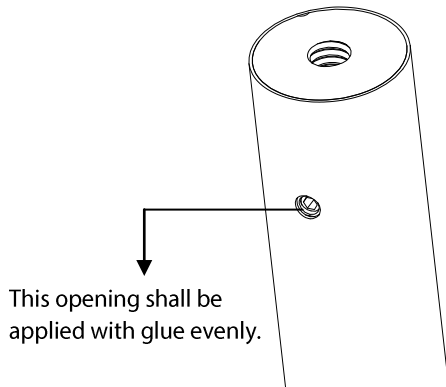

Figure 2-2
1. Open the glue and apply in the square opening of the arms as well as the one countersunk screw, as shown in figure 2-2. (This is to prevent screws from getting loose due to vibration after being used for a long time.)